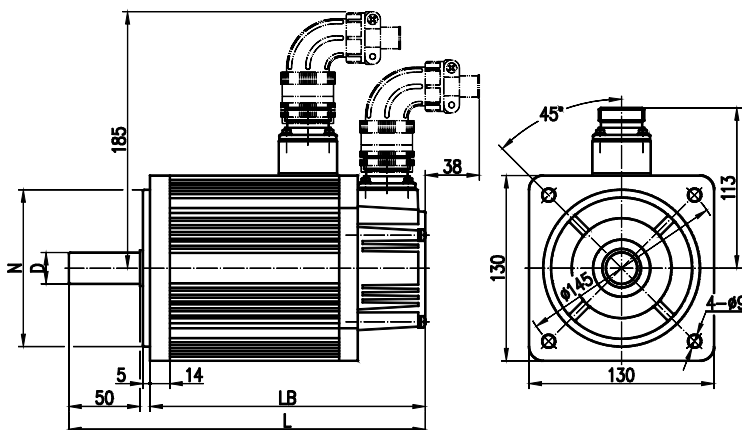

Fig. 3
5.3 Refer to figure 3 and list 8 about **130SJT** series motor overall installation dimension.